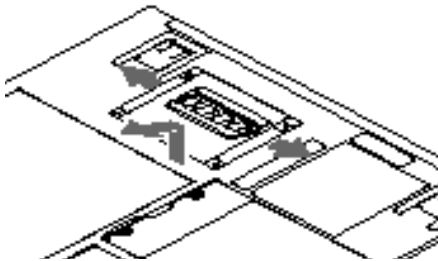

Figure 4-10 Removing a RAM Module
2. Pull clips sideways from each side of the memory upgrade module. (Figure 4-10).